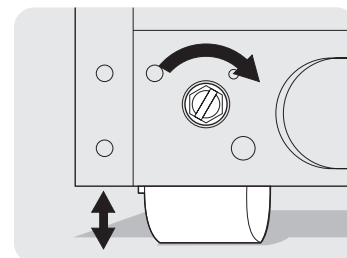

Figure A3
3. Adjust rollers by turning each roller adjusting bolt with flat-blade screwdriver, adjustable wrench, 3/8" socket wrench, or 3/8" nutdriver until refrigerator is level and stable. (See Figure A3.)